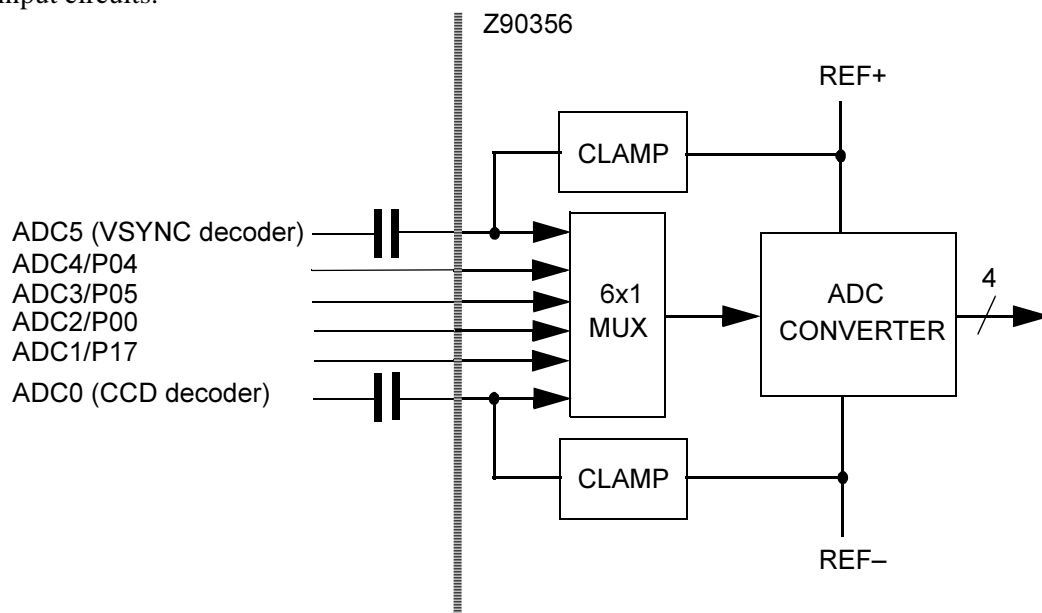
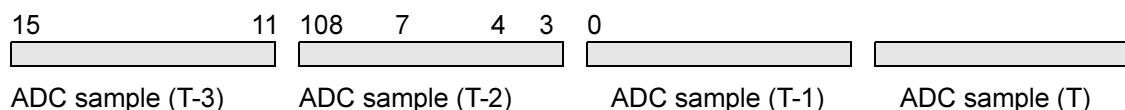

Figure 14 ADC Block Diagram
Figure 15 ADC Data Packing
Figure 14 is a block diagram of the ADC inner structure, and Figure 15 illustrates ADC input circuits.
Up to four 4-bit ADC data samples can be packed into one 16-bit word without software overhead. If R4(1)<9> = 1, every reading of R4(1) returns the result, where the High 12 bits are the three previous ADC samples and the Low 4 bits are the current one, as illustrated in Figure 15.